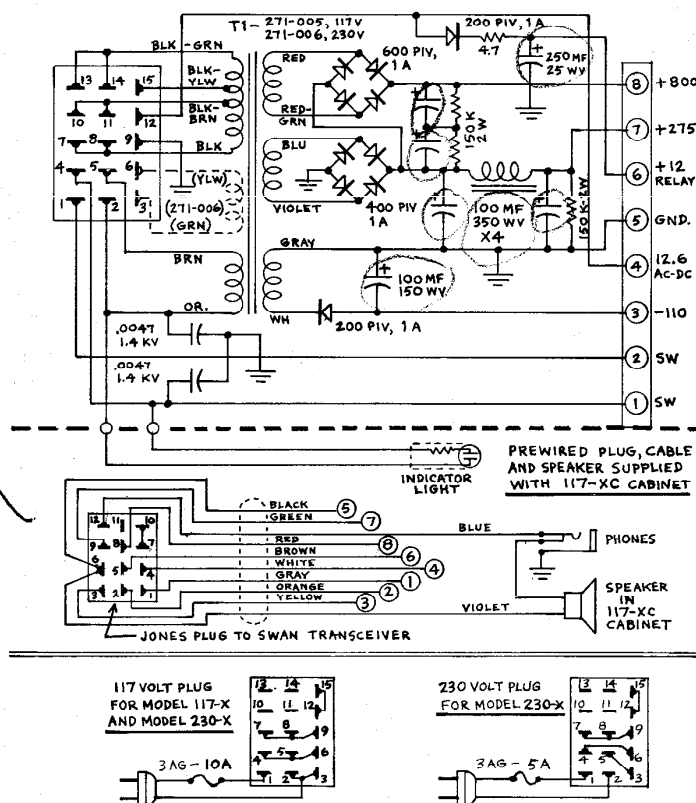

FIG. 9 MODEL 117-X (230-X) POWER SUPPLY
- Detach the D.C. Module, and plug in an A.C. line cord in place of it. Before applying power, disconnect the brown cable wire going to terminal (1) of the A.C. supply and connect a jumper from terminal (1) to (2). Temporarily tape the brown wire to keep it from shorting to ground, since it will be carrying 12 volts D.C. Now the power supply will operate when the A.C. line is plugged in, although the transceiver filaments will still be operating on the battery. This arrangement will be useful primarily for checking out the A.C. portion of the supply when trouble shooting.
- To operate the transceiver entirely on the A.C. line, it will be necessary to do the following: Disconnect the 5 wire cable going from the transceiver to the A.C. portion of the supply. Replace it temporarily with a 10 wire cable and hook-up as illustrated in the schematic diagram Fig. 9. This is the same cable and speaker hook-up used in the matching cabinet, 117-XC. Using the D.C. supply in this manner will prove useful for portable or